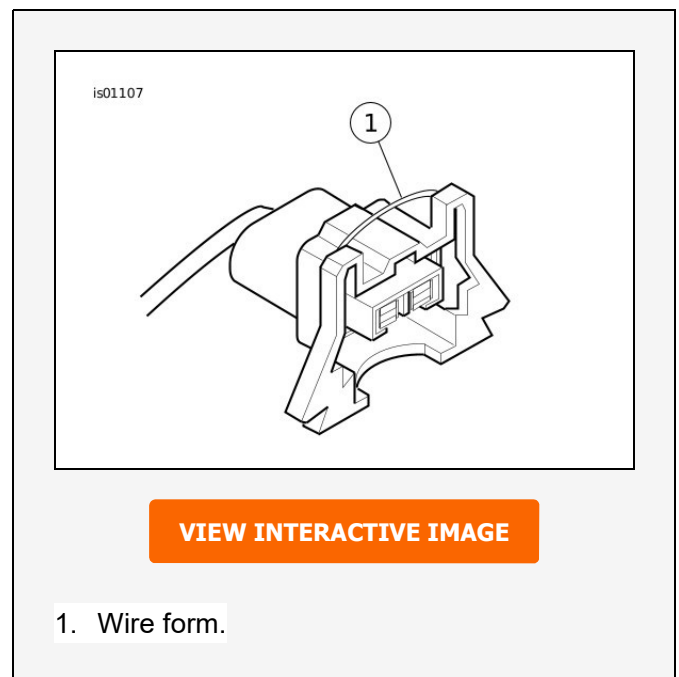

Figure 1. Connector With Wire Form
- a. See Figure 1. **Kit 32136-05A**, press wire form to remove connector.